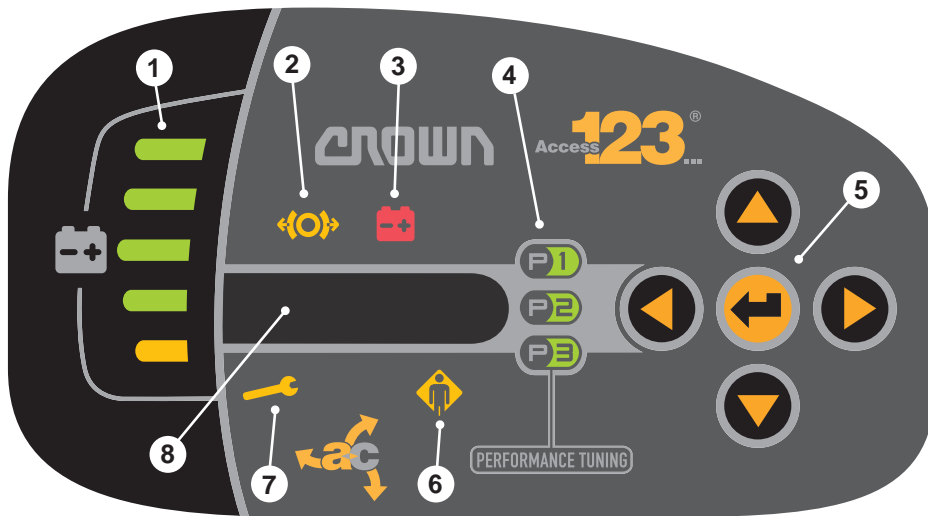

Fig. 7 Display panel
The battery discharge indicator (BDI) (Fig. 7, ①) consists of four green and one yellow LED.
When the battery warning indicator light (Fig. 7, ③) flashes the battery must be charged immediately. The truck will stop in 5 minutes.
When the truck starts, one of the 3 performance setting displays illuminates (Fig. 7, ④). Different values for the maximum speed, acceleration etc. are assigned to the various performance settings.
The display screen (Fig. 7, ⑧) shows error messages, and/or operator hints and messages from the operator menu.
The operator error indicator light (Fig. 7, ⑥) lights up in the following cases:
The performance setting is displayed (Fig. 7, ④)